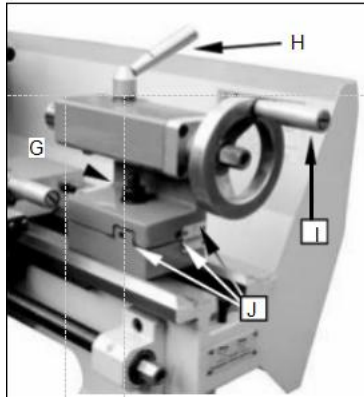

Fig. 12
10 . Tailstock Clamping screw (G, Fig. 12)
11. Tailstock Quill Clamping Lever (H, Fig. 12)
12. Tailstock Quill Traverse Handwheel (I, Fig. 12)